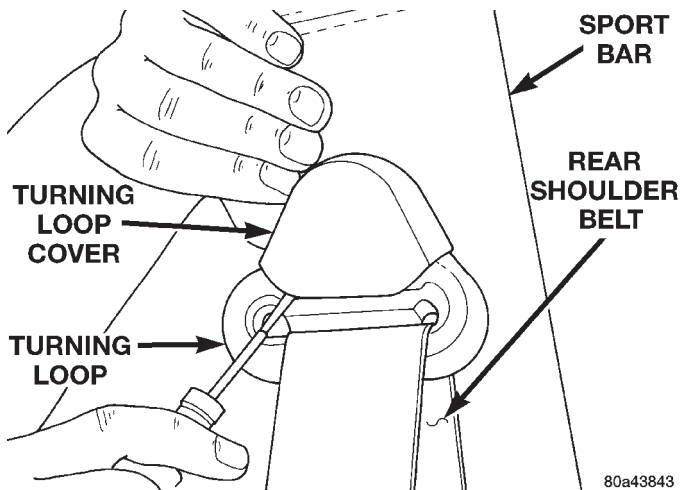

Fig. 54 Turning Loop Cover
- (3) Using a flat blade, pry the cover off the turning loop (Fig. 54).